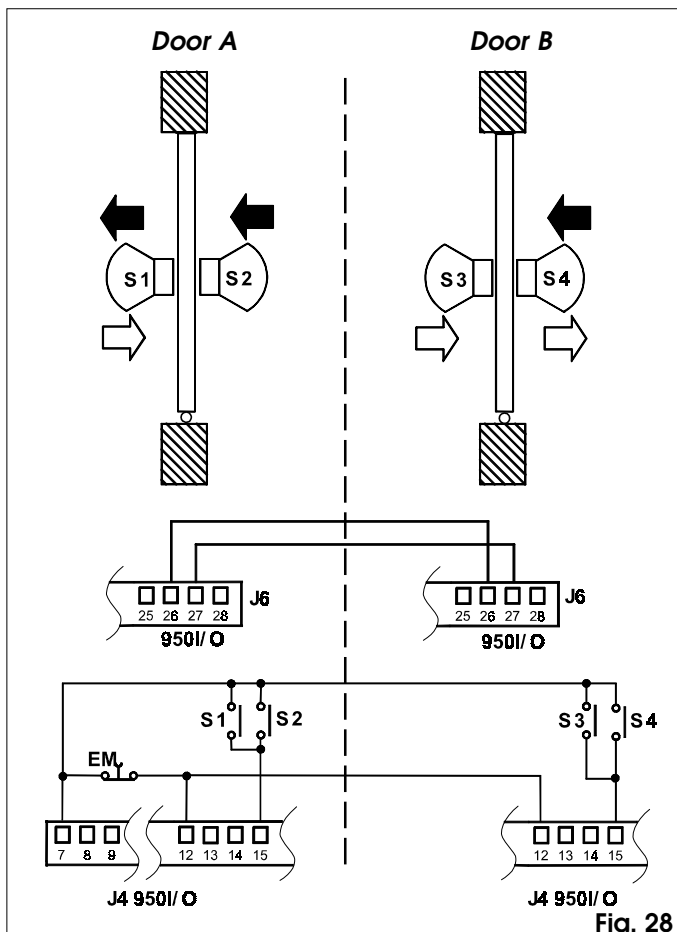

Fig. 28
- Make the connections between the 950I/O control units of the two automated systems and the sensors as shown in figure 28.